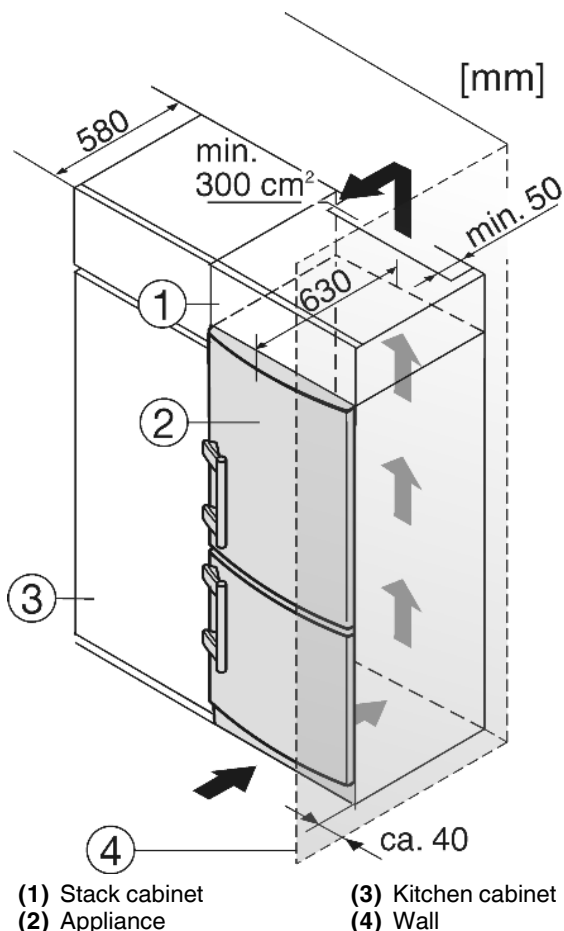

Fig. 9
The appliance can be inserted into a row of kitchen units. To match the appliance Fig. 9 (2) to the height of the row of units, a suitable stack cabinet Fig. 9 (1) can be fitted above the appliance. When inserting the appliance into a row of kitchen units (max. depth 580 mm), the appliance can be installed directly next to the kitchen unit Fig. 9 (3). The appliance door projects relative to the front of the kitchen unit by 34 mm at the side and by 50 mm in the middle of the appliance. It can be opened and closed perfectly as a result.
If the appliance is installed with the hinges next to a wall Fig. 9 (4), the distance between appliance and wall has to be at least 40 mm. This corresponds to the projection of the handle when the door is open.